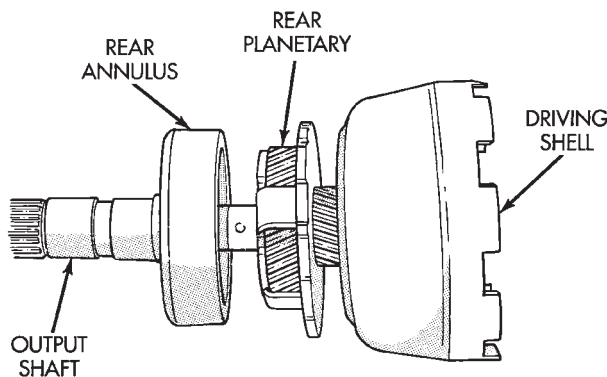

Fig. 78 Removing Driving Shell, Rear Planetary And Rear Annulus
(7) Remove front planetary rear thrust washer from driving shell.
(8) Separate and remove driving shell, rear planetary and rear annulus from output shaft (Fig. 78).